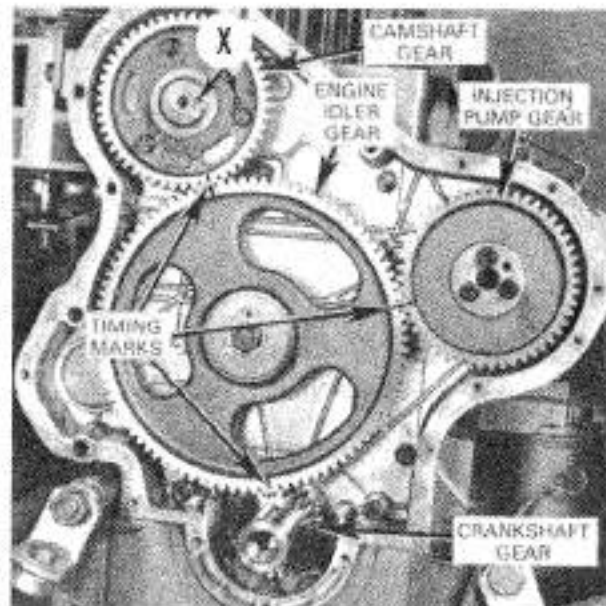

Fig. 67—View of timing gear train with timing marks aligned. Due to odd number of teeth on idler gear, marks align only once in 18 revolutions of crankshaft.
65. Fig. 67 shows a view of timing gear train with cover removed. Before attempting to remove any of the timing gears, first remove fuel tank, rocker arm cover and rocker arms assembly to avoid the possibility of damage to pistons or valve train if camshaft or crankshaft
66. CAMSHAFT GEAR. The gear is attached to camshaft by three equally spaced cap screws which thread into camshaft flange. It is possible, therefore, to install the gear in three positions, only one of which is correct. To correctly install the gear, align the stamped letters "D" on camshaft hub and front face of gear as shown at (X—Fig. 67). Tighten cap screws to 27 N·m (20 ft.-lbs.) torque.
When reinstalling gear, make certain all timing marks are aligned as shown in Fig. 67. Tighten retaining cap screw to 68 N·m (50 ft.-lbs.) torque.
**69. TIMING THE GEARS.** Due to the odd number of teeth on idler gear, the timing marks will align only once in 18 crankshaft revolutions. To time the engine after the gears are removed, first install camshaft gear as outlined in paragraph 66 and the injection pump gear as in paragraph 67. Install the crankshaft gear on keyed shaft with timing mark to the front. Refer to Fig. 67 and turn crankshaft, camshaft and injection pump until the respective timing marks point approximately toward idler gear hub; then, install idler gear aligning timing marks as shown.
To reinstall camshaft, reverse the removal procedure. If camshaft gear was removed, be sure stamped letters (X—Fig. 67) on gear and camshaft flange are aligned. Tighten gear retaining cap screws to 27 N·m (20 ft.-lbs.) torque.